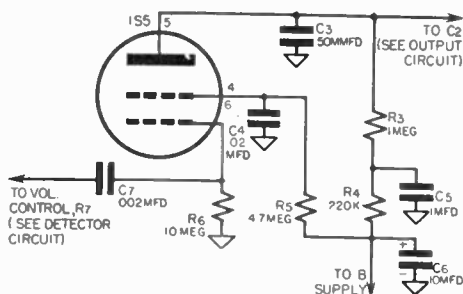

Fig. 8-7. First audio circuit.
d) *First Audio Circuit.* See Figure 8-7.